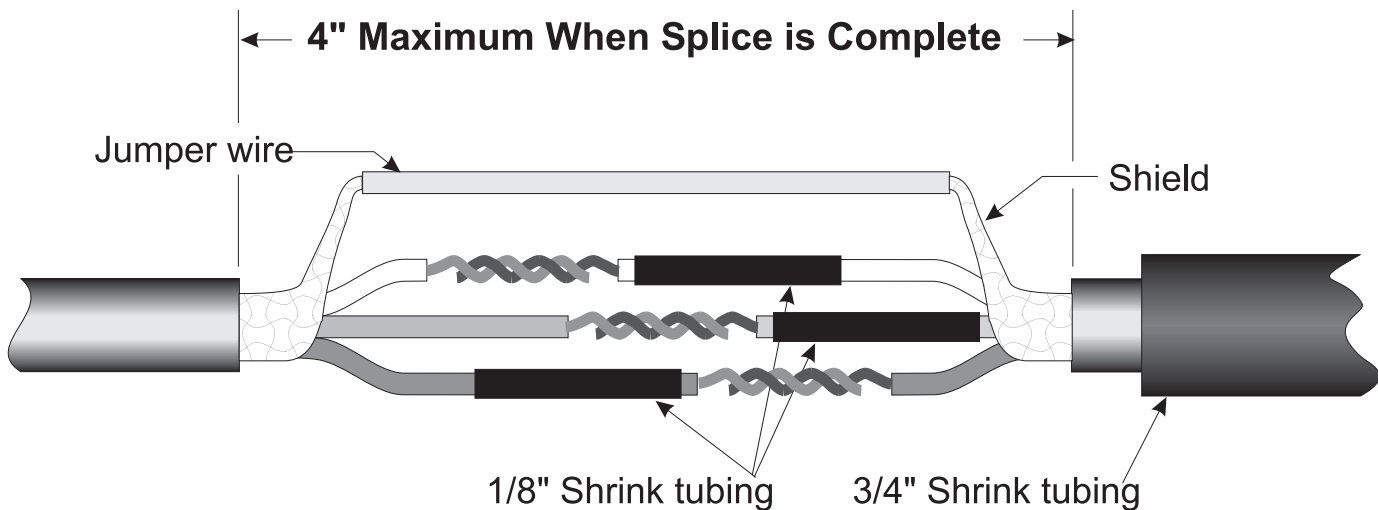

Figure 3
3. Align the two sections of cable together and twist the same color-coded wires together as shown in Figure 3.